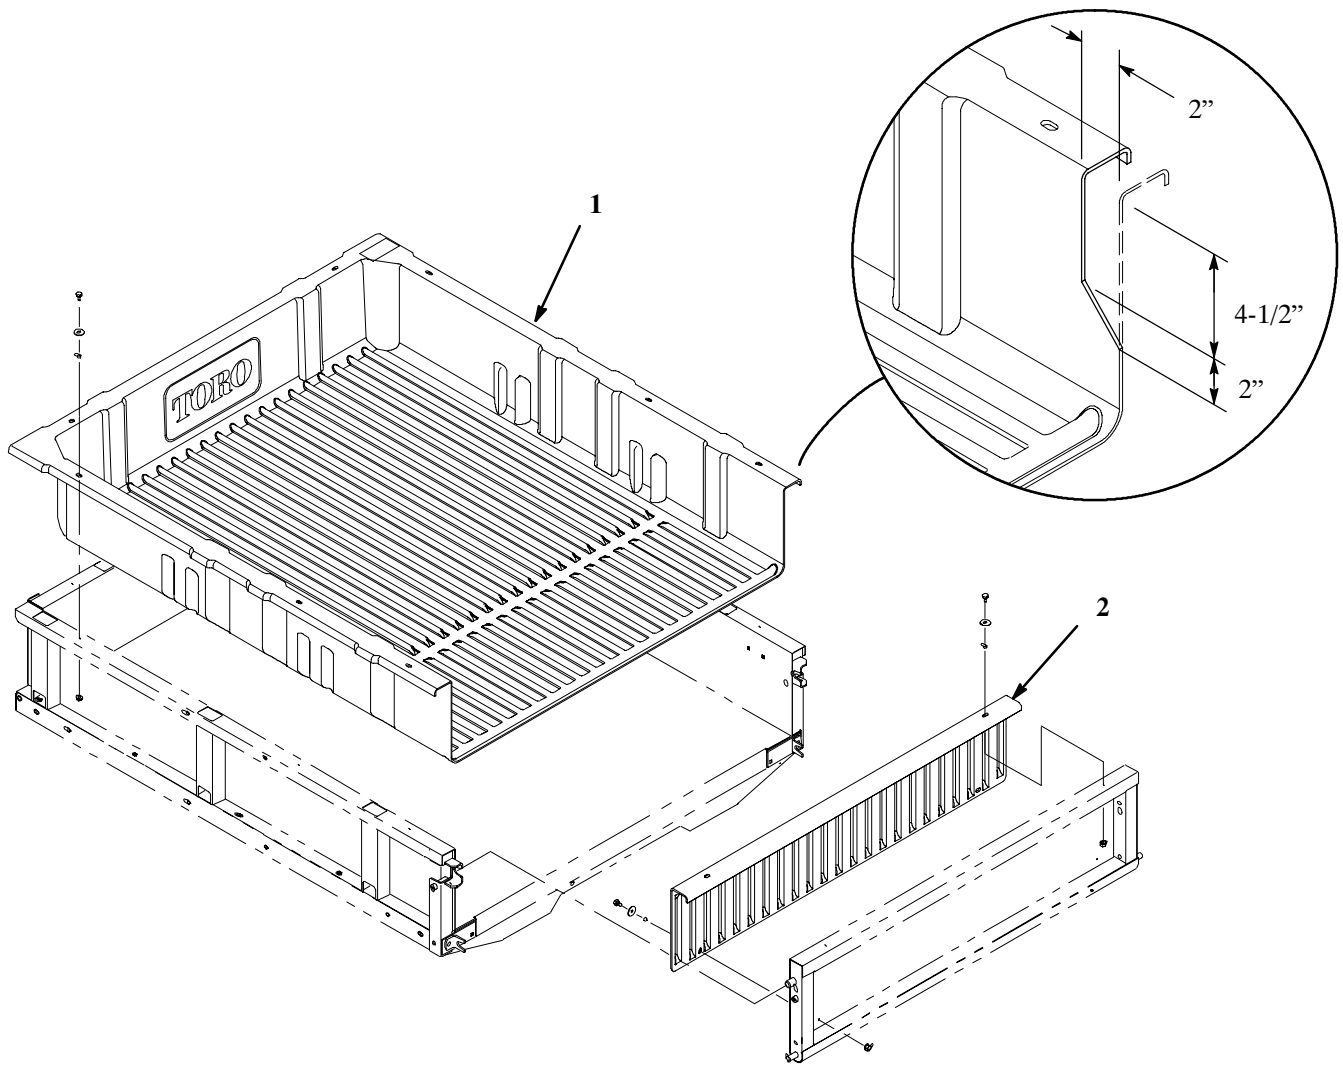

Figure 1
**Note:** When installing bed liner onto a full area or 2/3 area flatbed equipped with Automatic Tailgate Release Kit, cut out area on bed liner as shown in Figure 1. Repeat on opposite side.